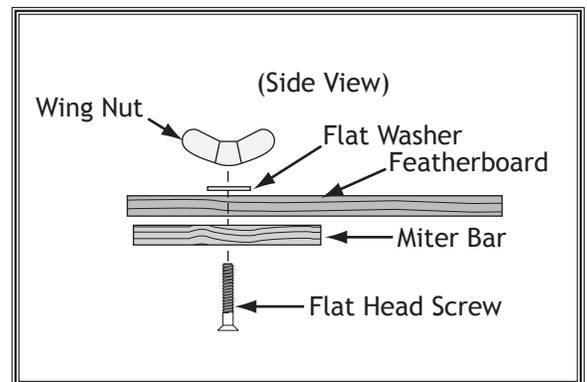

Figure 85. Assembling miter slot featherboard components.
8. Assemble miter bar and featherboard with a $\frac{1}{4}$ "-20 x flat head screw, flat washer, and a wing nut or a star knob (see **Figure 85**). Congratulations! Your featherboard is complete.